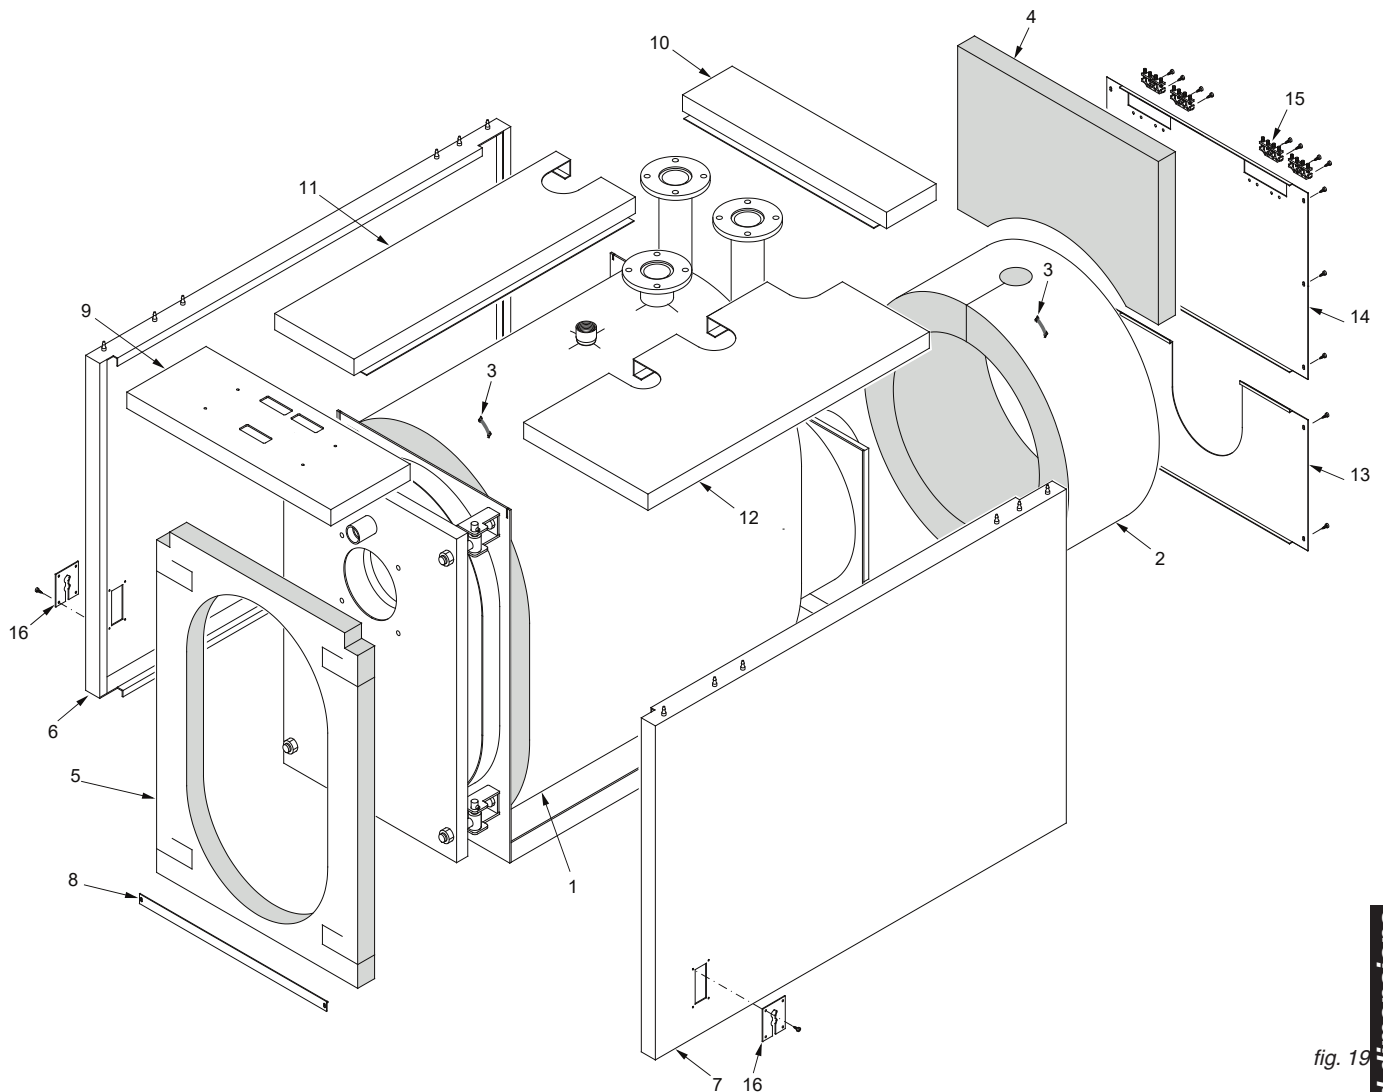

fig. 19
**N.B.** For models from **XC-K 350** to **XC-K 1550** (ref. fig. 19 and 20), the casing and insulation are contained in 3 boxes marked:
### Assembly sequence (Ref. fig. 19, 21)